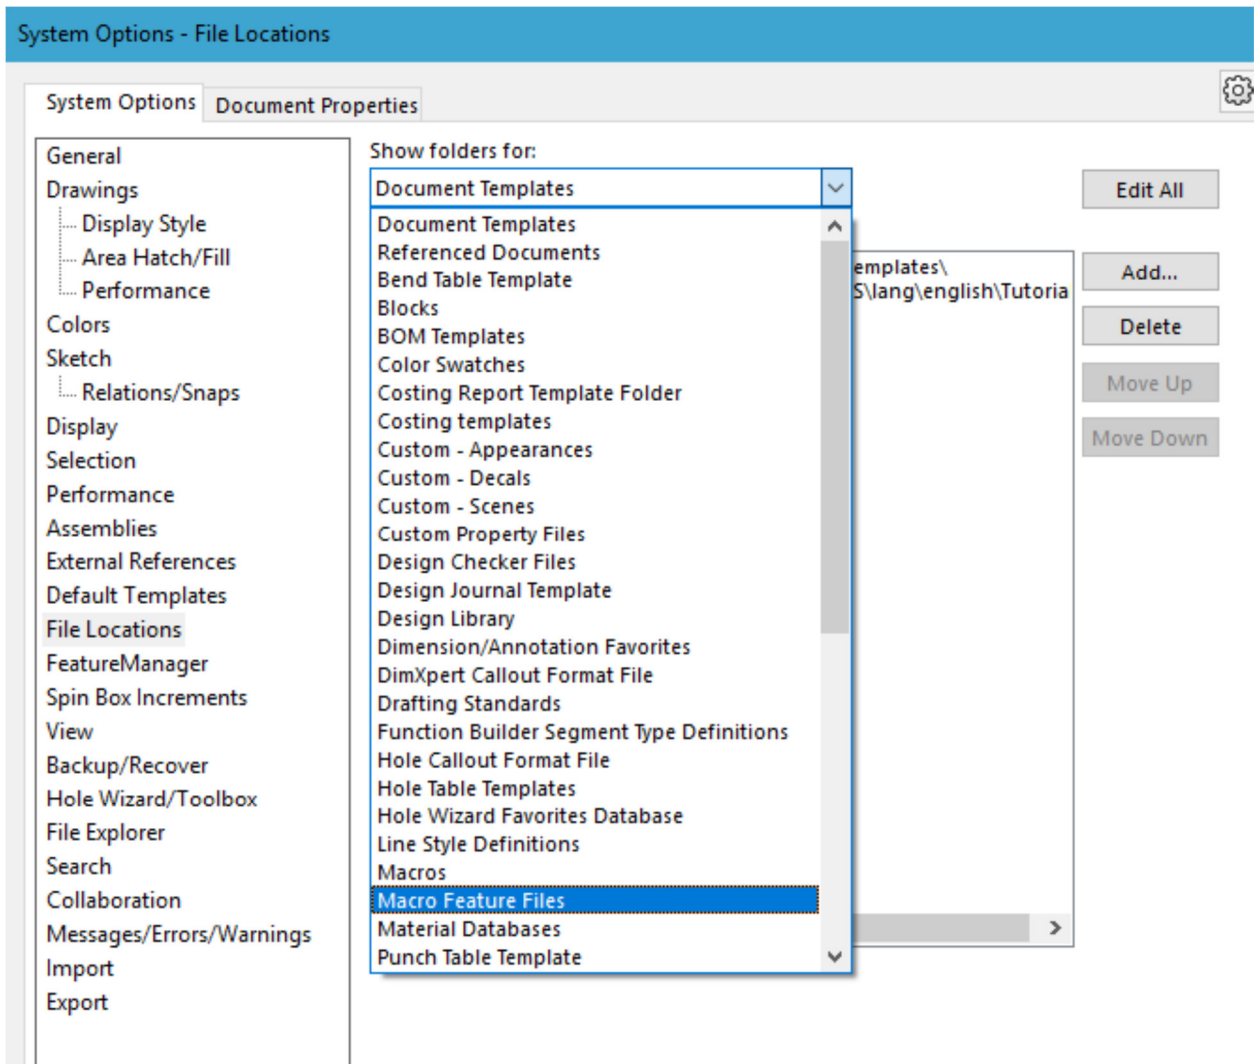

Figure 3.
- d) Select “Material Databases” from the drop-down menu (Figure 3.)